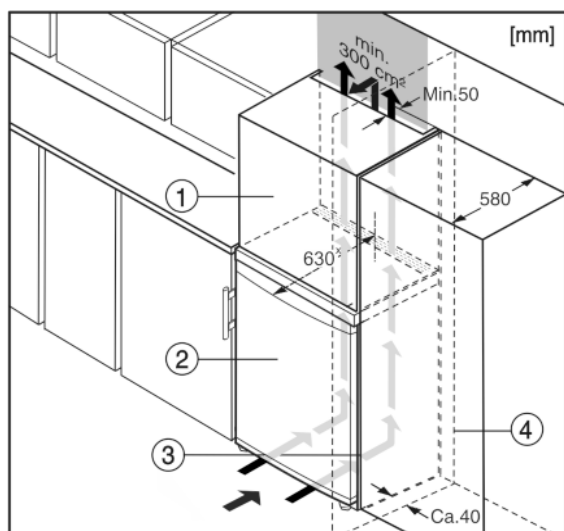

Fig. 5
(1) Stack cabinet
(2) Appliance
(3) Kitchen cabinet
(4) Wall
The appliance can be built into kitchen units. A top cupboard Fig. 5 (2) can be added above the appliance in order to bring the appliance Fig. 5 (1) up to the height of the fitted kitchen units.
When installing with kitchen units (max. depth 580 mm), the appliance can be positioned directly next to the kitchen cabinet Fig. 5 (3). The appliance will project by 34 mm * at the sides and 50 mm * in the centre of the appliance in relation to the kitchen cabinet front.
If the appliance is installed with the hinges next to a wall Fig. 5 (4), the distance between appliance and wall has to be at least 40 mm. This corresponds to the projection of the handle when the door is open.